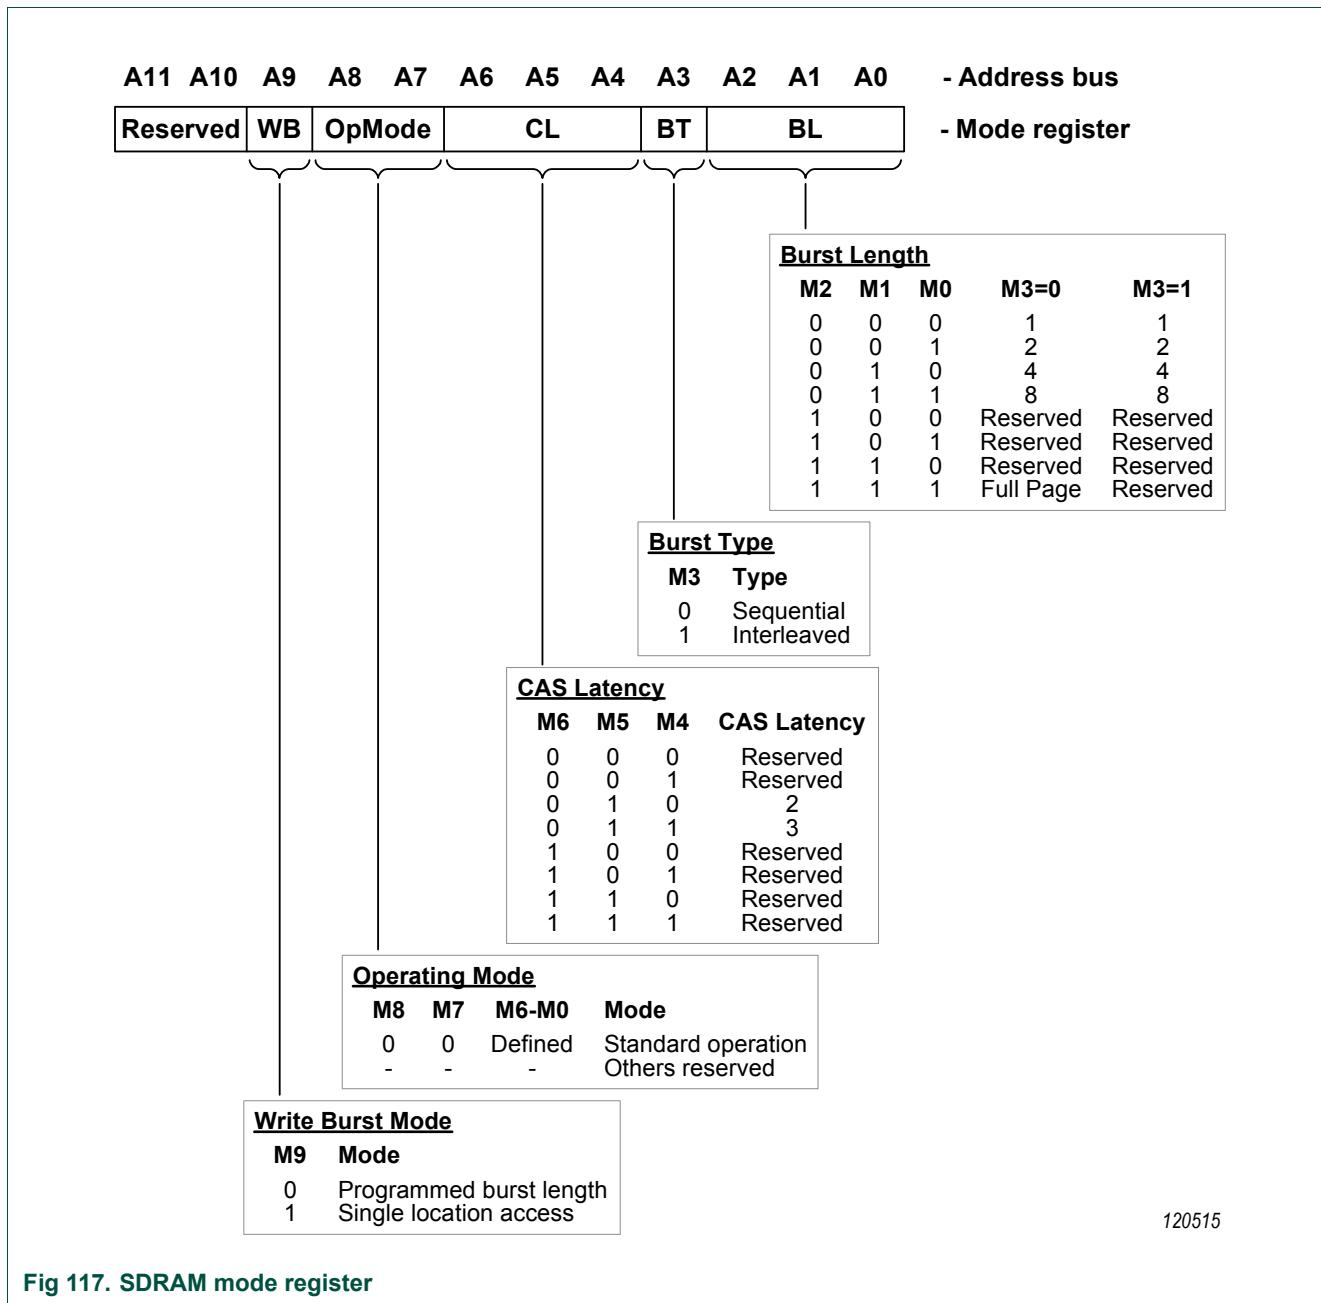

Fig 117. SDRAM mode register
When using the EMC with SDRAM, the SDRAM devices must be configured appropriately for the EMC. This includes setting up the SDRAMs for a 128-bit sequential burst. The burst configuration is done through a mode register in the SDRAM memory. Figure 117 shows the layout for a JEDEC standard SDRAM mode register.
- Mode register value, based on information from both the SDRAM data sheet, as in Figure 117, and the EMC. In this example, the value will be 0x23. This represents a programmed burst length, CAS latency of 2, sequential burst type, and a burst length of 8, as described in Section 33.5.